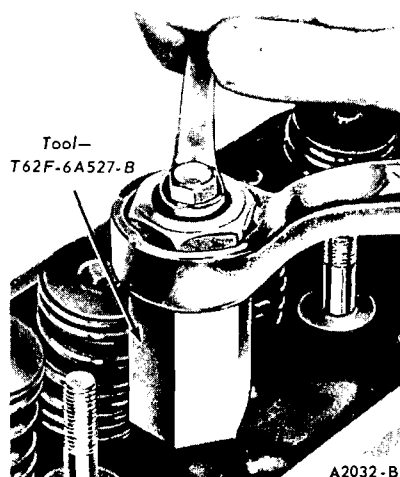

FIG. 23—Rocker Arm Stud Removal
1. Position the sleeve of the rocker arm stud remover (tool T62F-6A527-B) over the stud with the bearing end down. Thread the puller into the sleeve and over the stud until it is fully bottomed. Hold the sleeve with a wrench; then rotate the puller clockwise to remove the stud (Fig. 23).